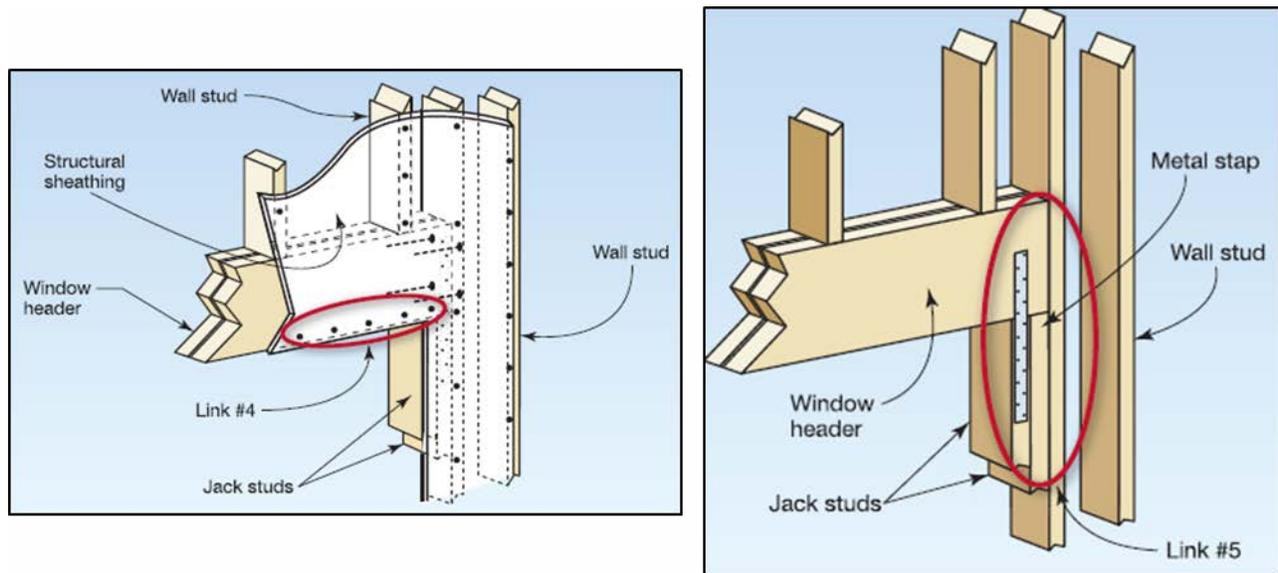

Figure 3.2.7. Connection of wall sheathing to window header (left) and window header to exterior wall (right) as part of a wall framing system.
- Ensure that wall sheathing and wall framing connections to the window header are strong enough to resist wind uplift and positive and negative horizontal wind pressures, as shown in Figure 3.2.7.